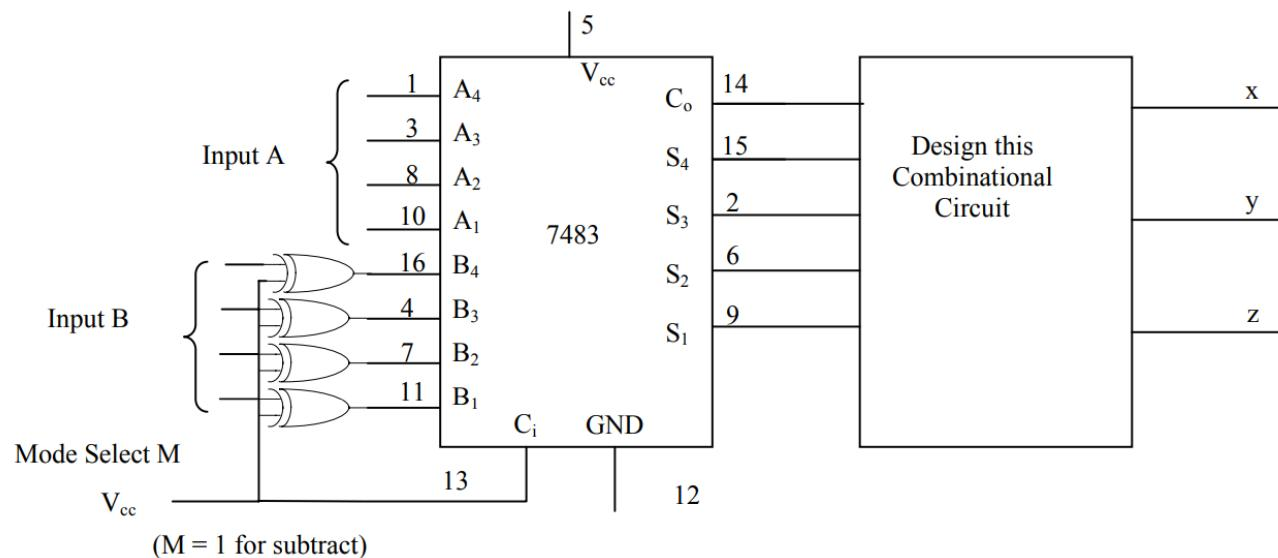

Fig.4 A magnitude comparator using a subtractor
f) A magnitude comparator can be constructed by using a subtractor as in Fig 2. And an additional combinational circuit. This is done with a combinational circuit which has 5 inputs S_1, S_2, S_3, S_4 , and Co , and three outputs X, Y, Z see Fig.4.